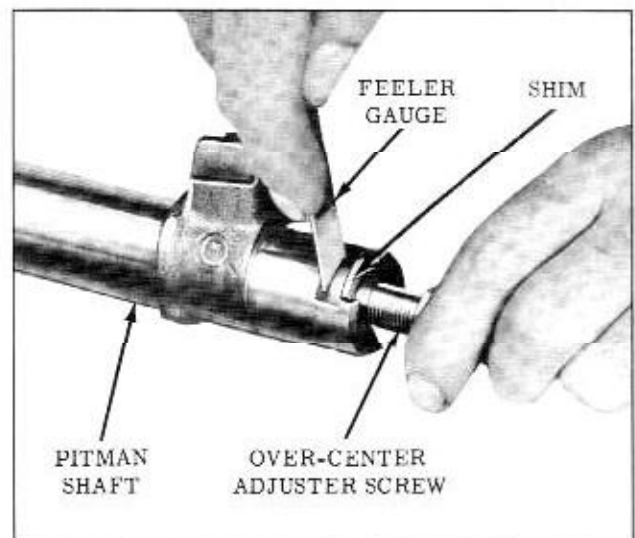

Fig. 4-43 Over-Center Screen Clearance
3. Assemble the over-center adjuster with shim in the slot in the end of the pitman shaft. Check the end clearance which should not be greater than .002" (Fig. 4-43). For the purpose of adjusting this end clearance, a steering gear over-center adjuster shim unit, Part Number 605142, is available. It contains four shims--.063", .065", .067" and .069" thick.